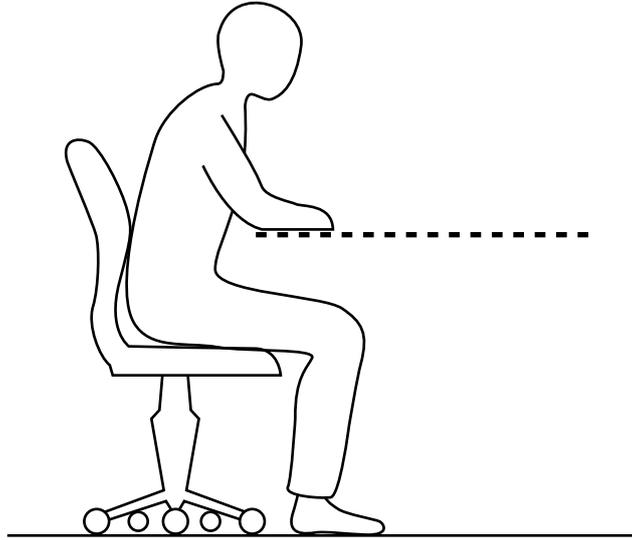

Fig. 3 [3]
- 7 Fig. 3 shows a person sitting ready to work at a desk.